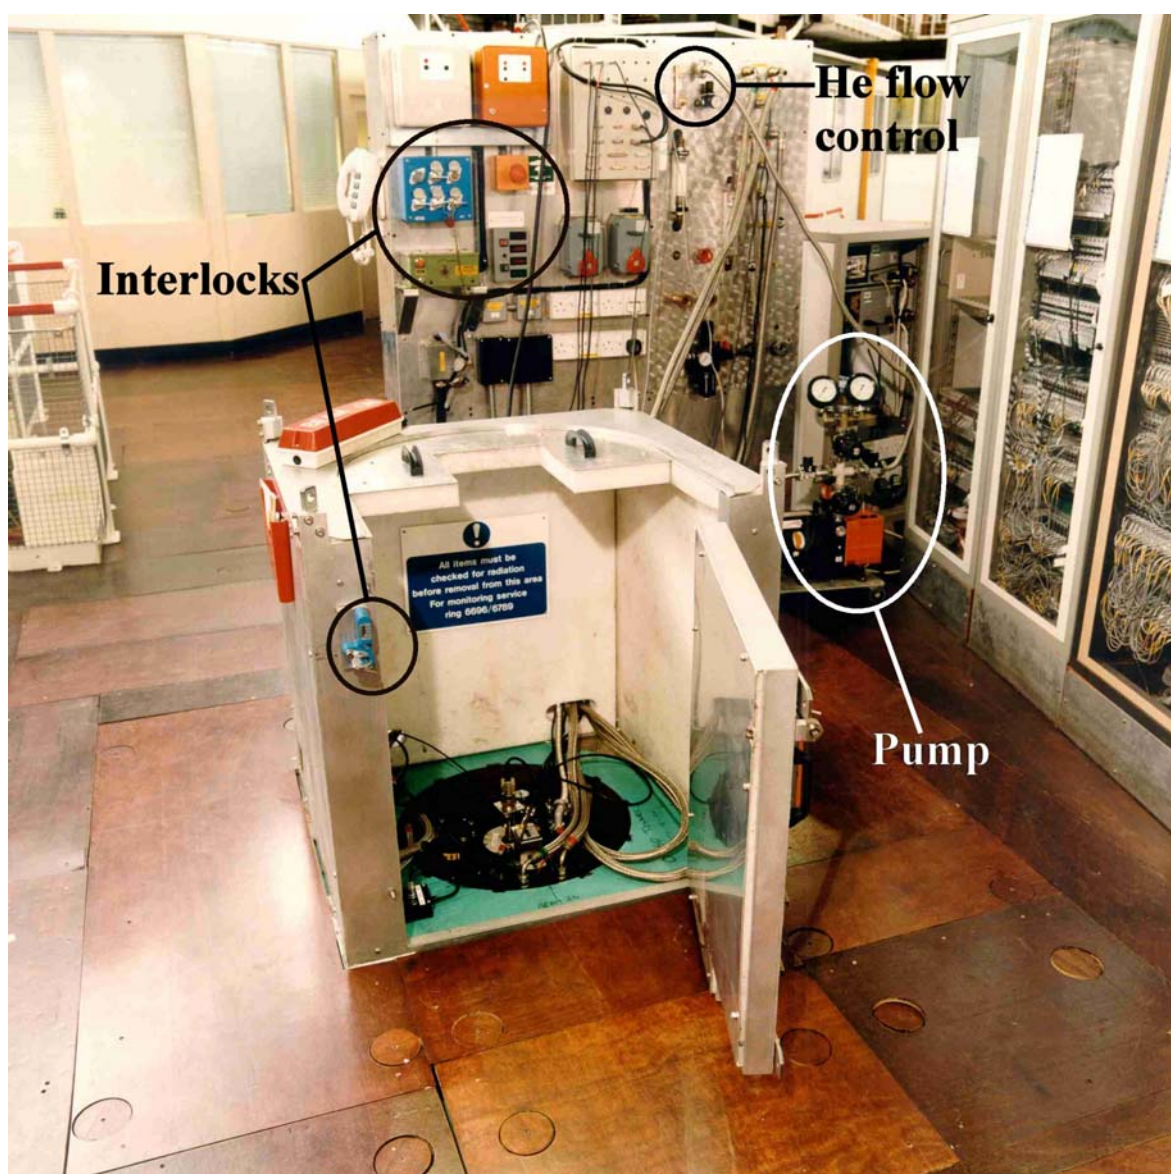

Figure 2.6: The TOSCA cloche and services panel showing the interlocks, pump and He flow control
Before changing a sample, familiarise yourself with the TOSCA cloche and the area around it. *Figure 2.6* shows the gate and interlocks to the TOSCA enclosure and highlights the location of the important items. The following procedure assumes that a standard centrestick is being used. If an aluminium can or other large piece of equipment (*e.g.* a catalysis cell or a McWhan cell) is being used, then it is essential to pre-cool this in liquid nitrogen immediately before insertion into the cryostat, otherwise the cool-down time is prohibitively long. If the sample is pre-cooled in liquid nitrogen, then ensure that the lowest baffle does not come into contact with the liquid nitrogen because it can freeze in the cryostat and cause the centrestick to become stuck.
9. Open fully the small brass valve on the flowmeter to the helium cylinder (see *Figure 2.6*). Do not adjust the regulator, the gas pressure on the gauge should read about 0.5 bar.